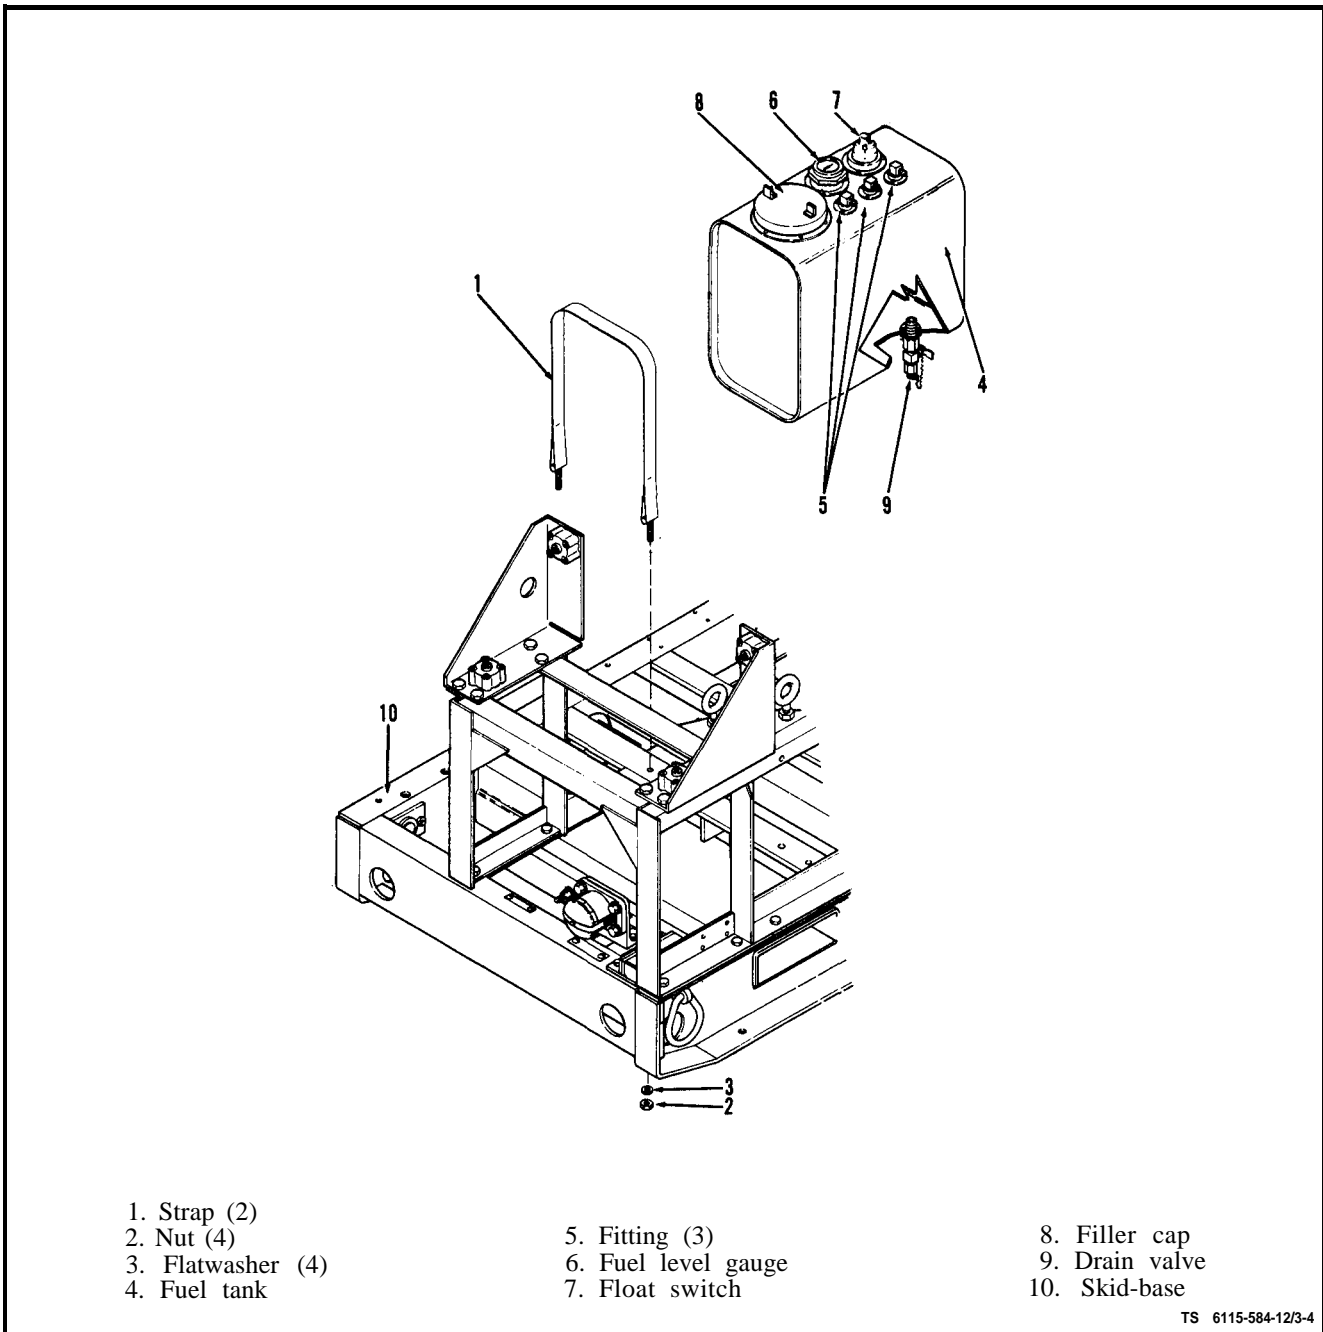

Figure 3-4. Fuel Tank
a. Cleaning and Inspection (see figure 3-4).
(1) Fuel Tank Strap Assemblies. Inspect both straps (1) for damage that would prevent them from securely holding fuel tank (4) to skid-base (10). Check that both straps are tight. Tighten straps by tightening nuts (2) and washers (3) securing each strap to skid-base.
(2) Fuel Tank. Visually check fuel tank (4) for dents or leaks. Check that filler cap (8) fits securely onto tank and that filler cap and surrounding area is clean. Clean using solvent and clean cloth.
(3) Fuel Level Gauge. Check fuel level gauge (6) for physical damage. Check that gauge shows FULL when tank is full, and EMPTY when tank is empty. Notify higher level of maintenance for replacement of fuel level gauge.
(4) Float Switch. Inspect float switch (7) for physical damage. Check that float switch is properly attached to tank.
(5) Fittings. Inspect three fittings (5) for physical damage. Check that fittings are secured to fuel tank. Notify higher level of maintenance of leaky or damaged fittings.
(6) Fuel Drain Valve. Inspect drain valve (9) for physical damage. Check that valve operates properly. If not, notify higher level of maintenance.
(7) Filler Cap Assembly. Inspect filler cap (8) for physical damage. Check that vent on underside of cap opens and closes easily. Ensure that vent on underside of filler cap is open before starting generator.